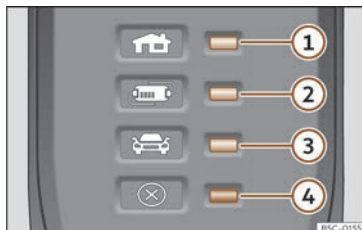

Fig. 67 On the charging cable for power sockets: Indicator lamps on the protection device.
>>> **Fig. 67:**
The electronic protection device >>> **Fig. 67** ensures that the charging connector does not receive current until it is plugged in to the vehicle's charging connector.
One or more control lamps >>> **Fig. 67** ①, ② or ③ light up green.
Display >>> Fig. 67	Meaning
①, ④ flashing	The housing connector has overheated.
②, ④ flashing	The protection device has overheated.
If the charging process continues with a lower current, both the operating indicator and the warning lamp >>> Fig. 67 ④ flash red.
- If it disconnects again, or the charging current reduces and the cause does not seem to be exposure to an external heat source, make sure that the green control lamp is flashing >>> Fig. 67. Visit a specialised CUPRA dealer or any SEAT network dealer to check the charging cable. Get an establishment that specialises in electrical installations to check the infrastructure connection.
If the red warning light ④ flashes or turns on without one of the indicator lamps >>> Fig. 67 ①, ② or ③ also turning on continuously on the status indicator, there is a fault.